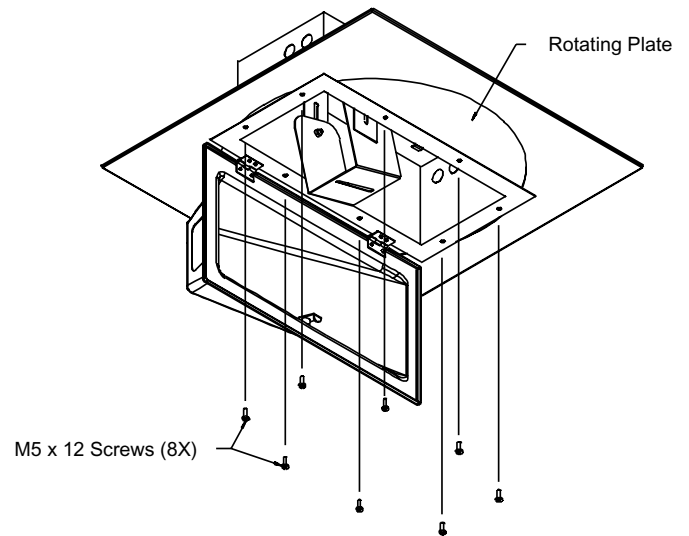

Figure 5: Securing the Unit to Mounting Kit
8. Secure the HS9369 or HS9370 to the rotating plate by attaching the six M5 screws through the mounting holes in the backbox and into the rotating plate. Do not tighten at this time. See Figure 5.